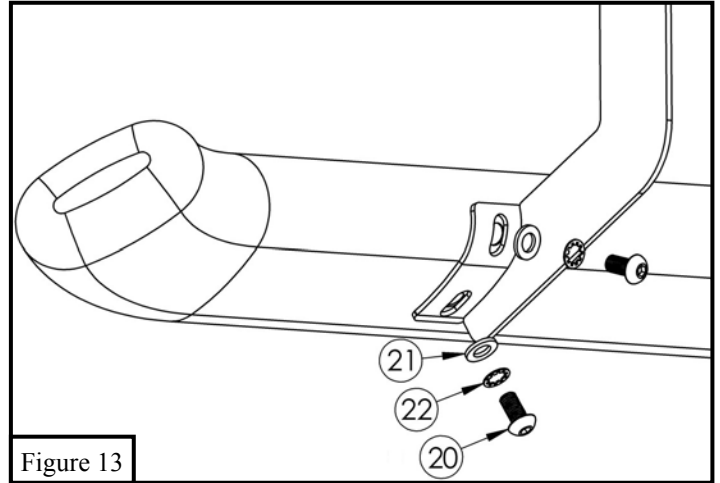

Figure 13
12. Locate (1) step bar assembly and loosely attach onto previously installed brackets using (8) M10 button head bolts, (8) M10 flat washers and (8) M10 internal toothed lock washers. **See Figure 13.**